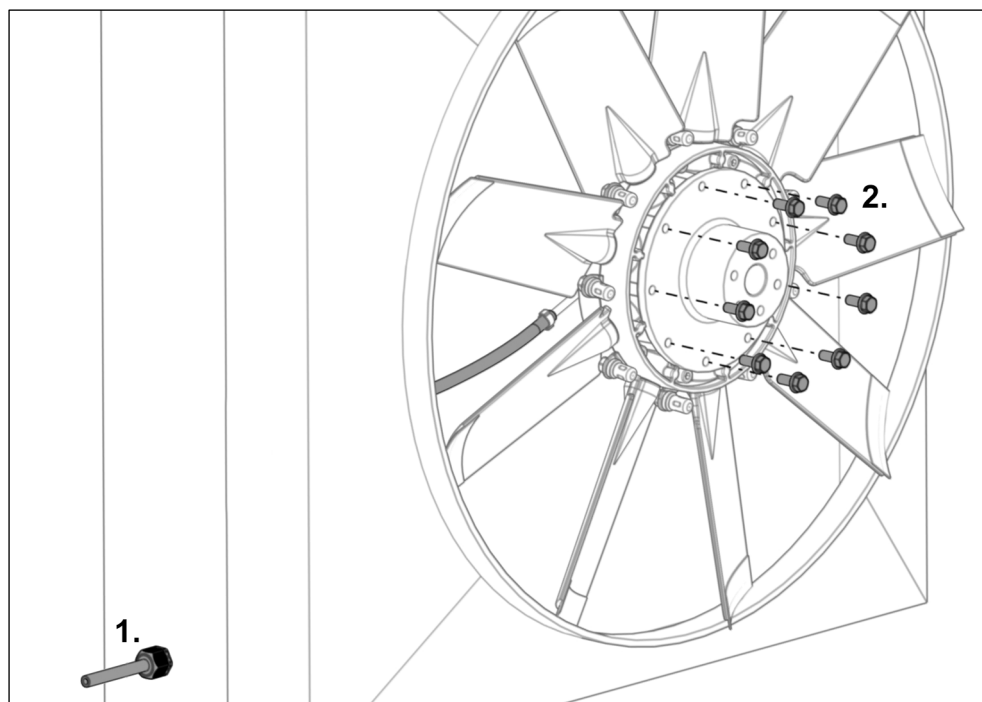

Fig. 29
- 20) Guide the pressure hose through the strain relief (see Fig. 29 step 1).
- 22) Screw in the supplied mounting screws by hand (see Fig. 29 step 2).